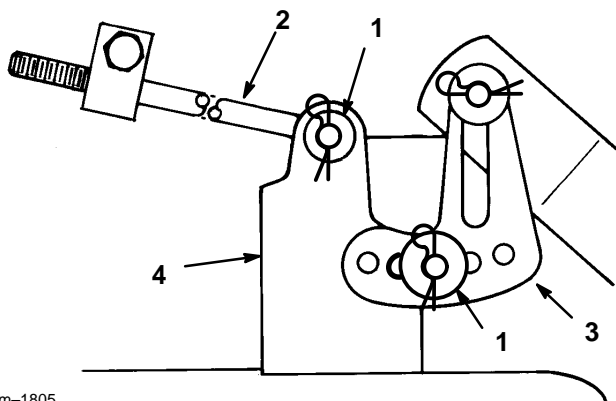

Figure 39
8. Remove the hair pin cotter and washer at the top of the mower leveling bracket (Fig. 39). Now slide the bracket off the mounting pin. Repeat this step on the opposite side of the mower.
9. Remove the hair pin cotter and washer from the end of the long rod (Fig. 39). Now slide the rod out of the mower mount. Repeat this step on the opposite side of the mower.